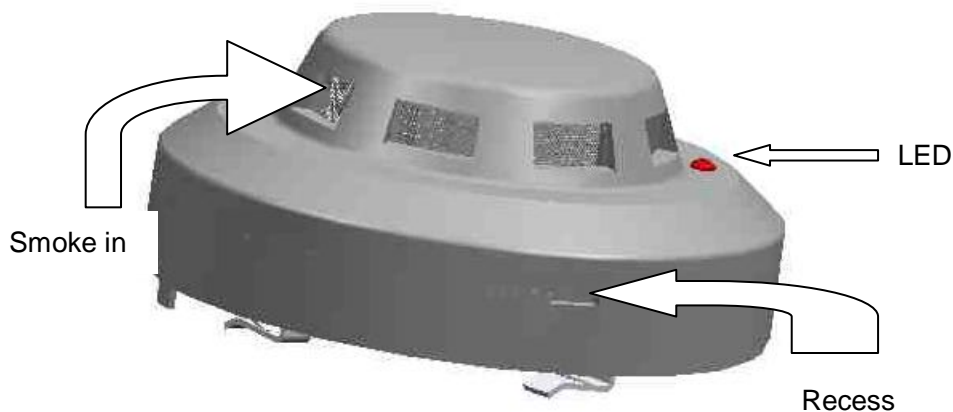

Fig. 6 Testing
- 2) You can also use similar smoke generating tools (cigarette or smoke gun) and blow the smoke at the smoke-in hole (Fig. 6) into the detector until it alarms.